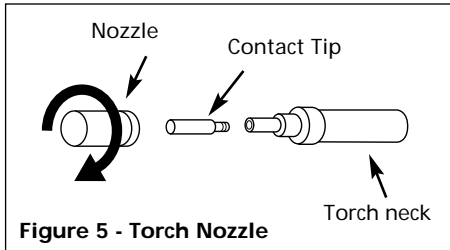

Figure 5 - Torch Nozzle
7. Remove nozzle by turning clockwise while pulling off, then unscrew contact tip from end of welding torch (See Figure 5). Plug welder into a proper power supply receptacle.
- Carefully slip contact tip over wire and screw tip into torch end. Install nozzle by twisting clockwise while pushing onto torch (See Figure 5). Cut wire off approximately 1/4 inch from nozzle end.